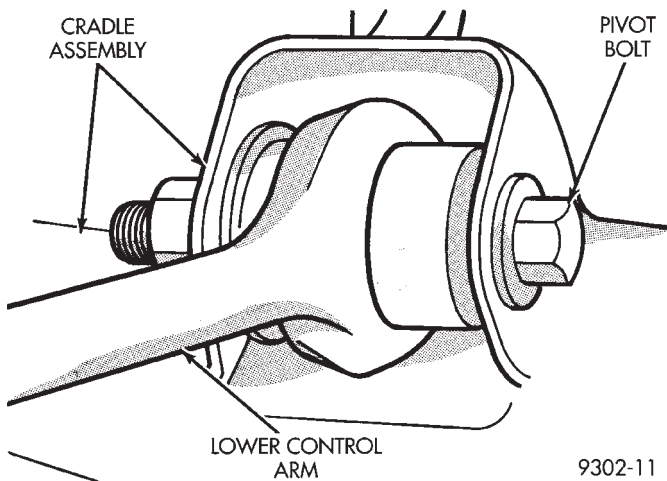

Fig. 9 Lower Control Arm Pivot Bolt
(7) Lower vehicle so the suspension is supporting vehicles weight (control arm at design height). Torque the lower control arm pivot bushing to cradle bracket attaching bolt (Fig. 9) to 123 N•m (90 ft. lbs.).